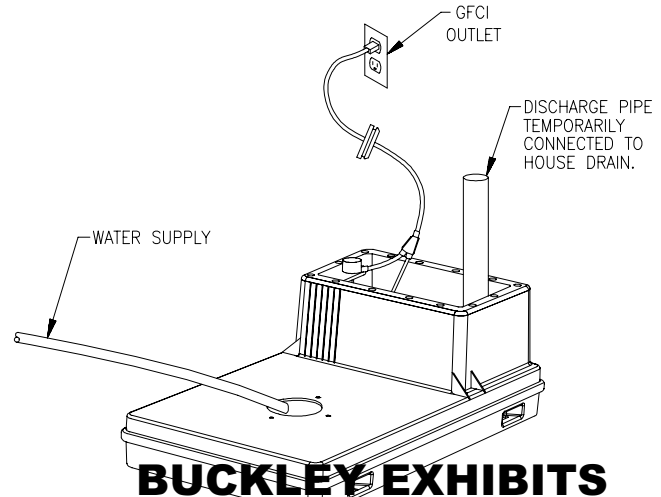

Figure 6.1
- 6.3) Fill the tank with 4" of water as shown in Figure 6.1. The pump should not turn "ON"!